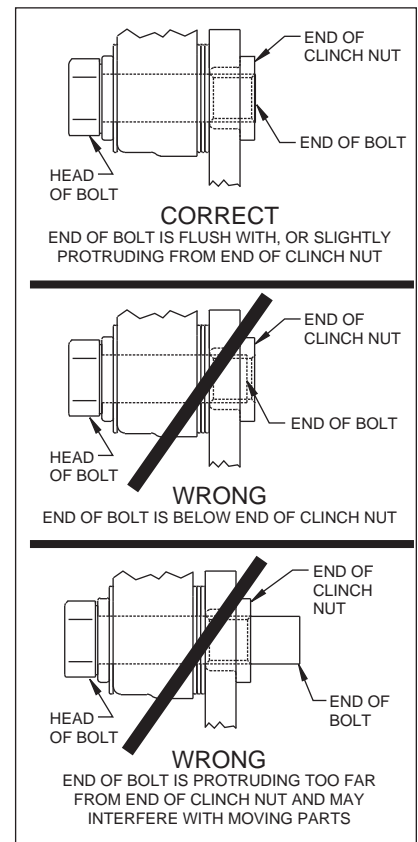

Figure 3.
rotor rotation. Temporarily tighten the mounting bolts and view the rotor (11) through the top opening of the caliper. The rotor should be centered in the caliper. If not, adjust by adding or subtracting shims (21) between the bracket and the caliper. Always use the same amount of shims on each of the two mounting bolts. **NOTE:** *The end of the bolt must be flush with or slightly protruding from the head of the clinch nut in the bracket.* If necessary, place spare shims between the washer and the caliper mounting ear to achieve the proper clinch nut engagement, as shown in Figure 3. Always use the same amount of shims on both the top and bottom caliper mounting bolts. Once the caliper alignment and clinch nut engagement are correct, remove the mounting bolts and caliper.